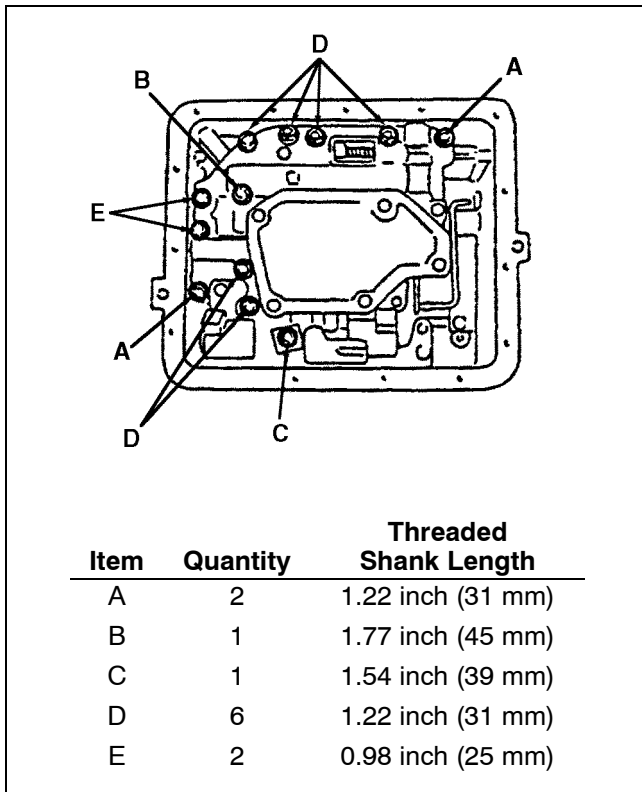

Figure 4J-40. Control Valve Installation
4. Install the shift lever and cotter pins as shown in Figures 4J-38 and 4J-39.